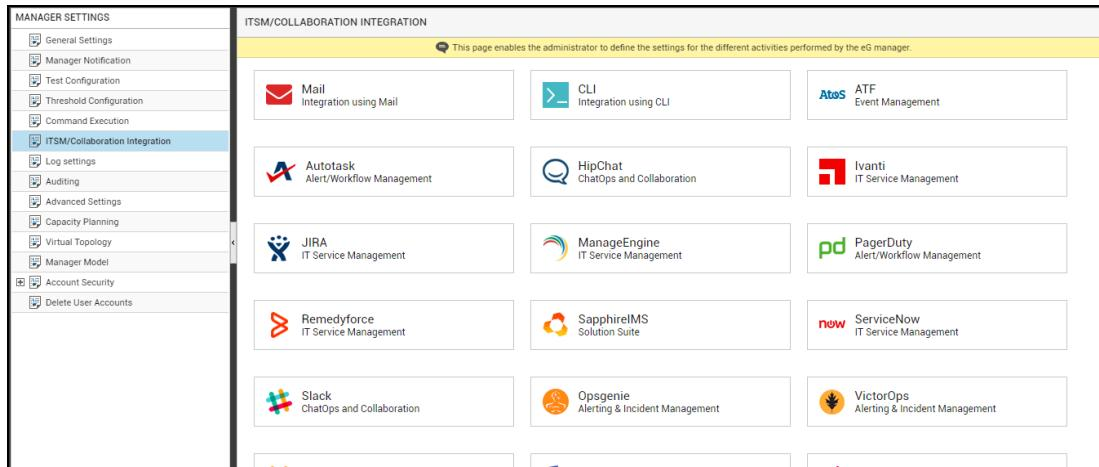
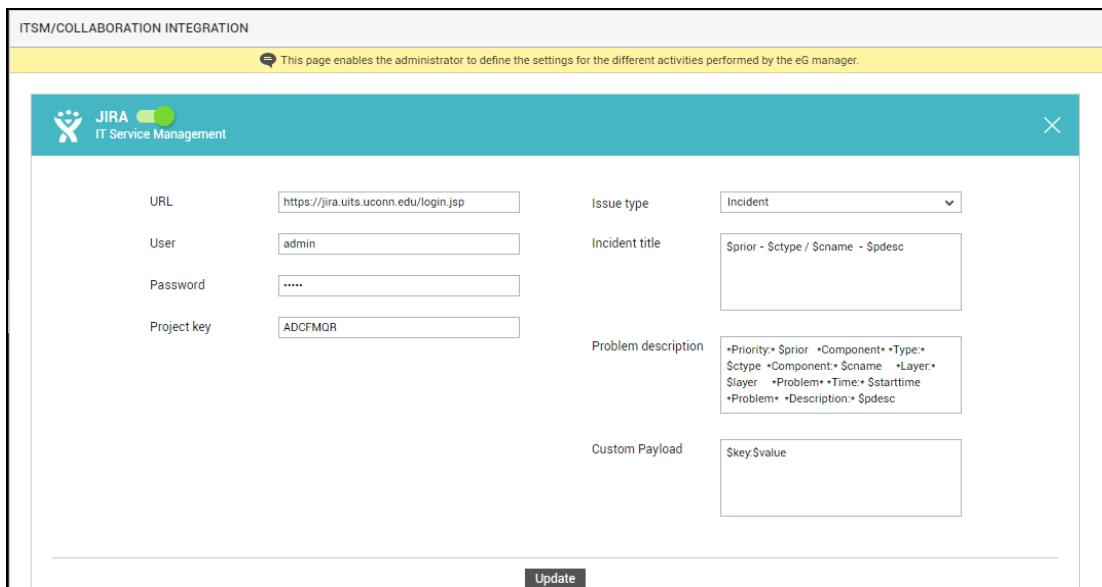

Figure 5.15: Viewing the ITSM/Collaboration tool options
Figure 5.16: Configuring integration with JIRA
3. Figure 5.15 will then appear. From the **MANAGER SETTINGS** tree in the left panel of Figure 5.15, select the **ITSM/Collaboration Integration** node. The third-party ITSM/Collaboration tools that eG Enterprise can integrate with will be listed in the right panel.
4. Now, click on the **JIRA** option in the right panel (see Figure 5.15). A **JIRA** section will now appear in the right panel (see Figure 5.16).
5. To enable integration with JIRA, first slide the **JIRA** slider in Figure 5.16 to the right.
6. Then, specify the following in Figure 5.16: